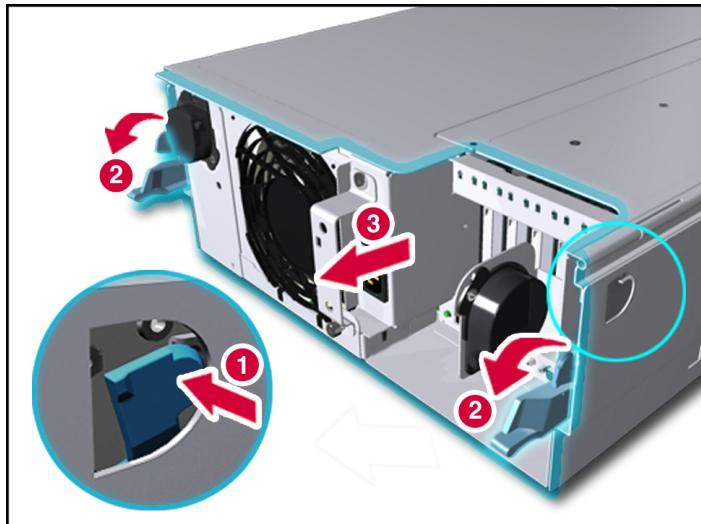

Figure 3-4: Releasing the host module
7. Push in on the sides of the module release levers (1) on the host module and rotate the top of the levers downward (2), as shown in Figure 3-4.
8. Pull the host module out of the chassis (3).